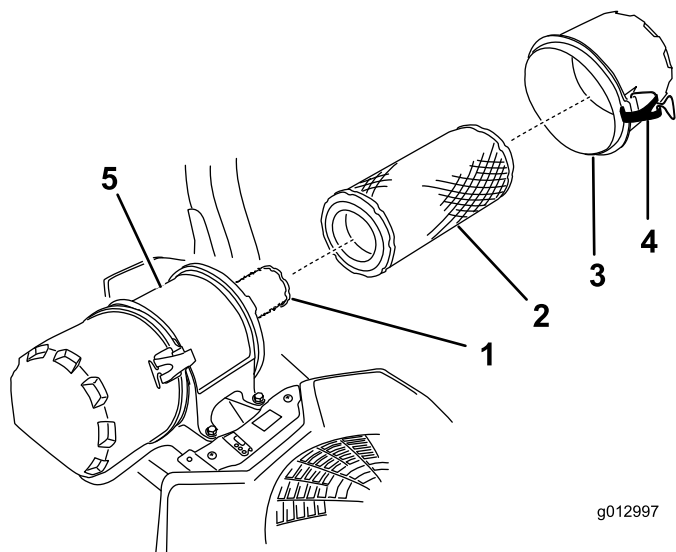

Figure 63
6. Release the latches on the air cleaner and pull the air-cleaner cover off the air-cleaner body (Figure 63).
8. Gently slide the primary filter out of the air-cleaner body (Figure 63).
2. If you are replacing the safety filter, carefully slide it into the filter body (Figure 63).
3. Carefully slide the primary filter over the safety filter (Figure 63).
4. Install the air-cleaner cover and secure the latches (Figure 63).